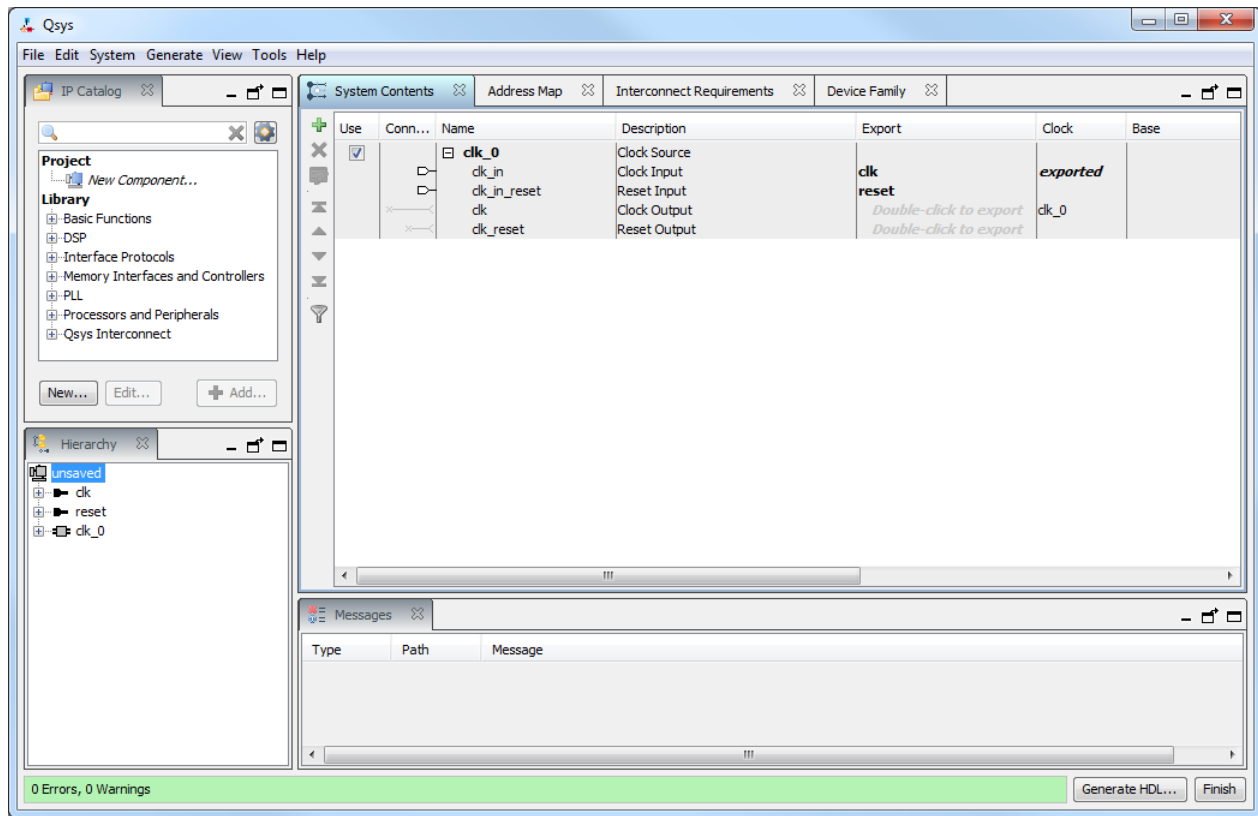
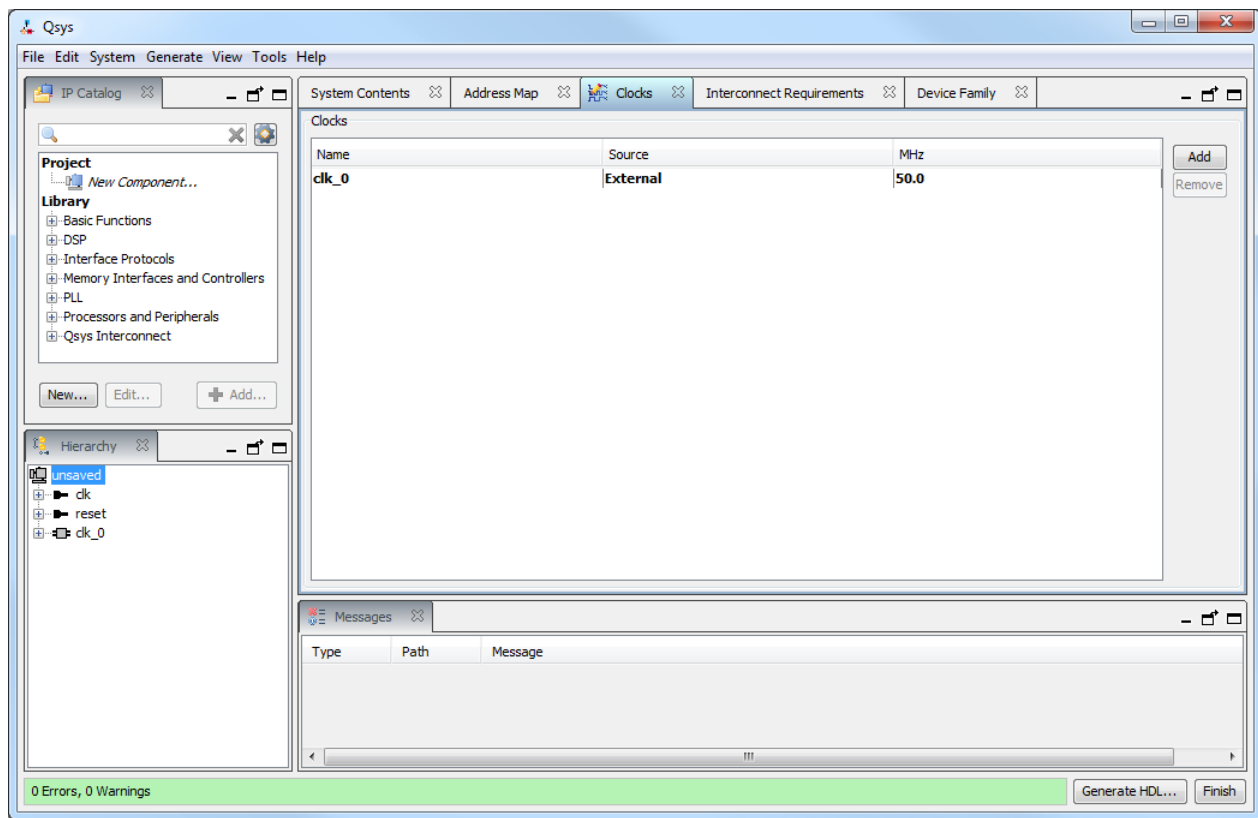

Figure 4. Create a new Nios II system.
Figure 5. The Clock Settings tab.
2. After completing the New Project Wizard to create the project, in the main Quartus II window select **Tools > Qsys**, which leads to the window in Figure 4. This is the System Contents tab of the Qsys tool, which is used to add components to the system and configure the selected components to meet the design requirements. The available components are listed on the left side of the window.
- The hardware system that will be generated using the Qsys tool runs under the control of a clock. For this tutorial we will make use of the 50-MHz clock that is provided on the DE2-115 board. In Figure 4 select **View > Clocks** to bring the Clocks tab to the foreground, as illustrated in Figure 5. Here, it is possible to specify the names and frequency of clock signals used in the project. If not already included in this tab, specify a clock named *clk\_0* with the source designated as **External** and the frequency set to 50.0 MHz. The settings are made by clicking in each of the three columns: Name, Source and MHz.